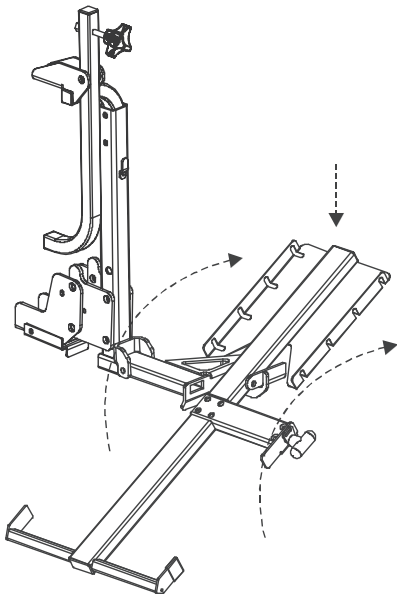

Figure 4-16
5. Push down on the front of the platform or pull up on the yellow handle to rotate the platform level. The platform will automatically latch into place. *See Figure 4-16.*